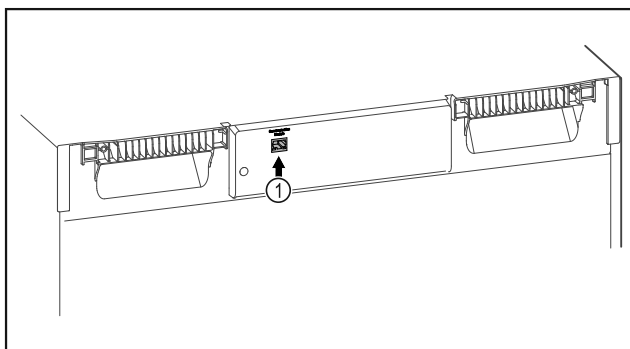

Fig. 101
- SmartModule Fig. 101 (1) is in use.